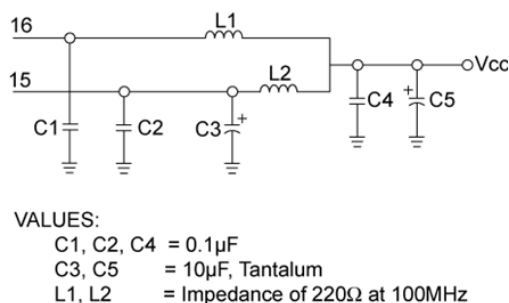

Figure 2 Shows the suggested layout for power and ground connections.
- Note 9** **VccR and VccT:** are the receiver and transmitter power supplies. They are defined as 3.3 V $\pm$ 5% at the FRONT LOAD PLUGGABLE connector pin. Recommended host board power supply filtering is shown in **Figure 2**. When the recommended supply filtering network is used, hot plugging of the FRONT LOAD PLUGGABLE module will result in an inrush current of no more than 30 mA greater than the steady state value. VccR and VccT may be internally connected within the FRONT LOAD PLUGGABLE module
A suggested layout for power and ground connections is given in **Figure 2** below. Connections are made via separate voltage and ground planes. The mounting posts are at case ground and should not be connected to circuit ground. The ferrite bead should provide an impedance of $220\ \Omega$ at 100 MHz. Bypass capacitors should be placed as close to the 20 pin connector as possible.